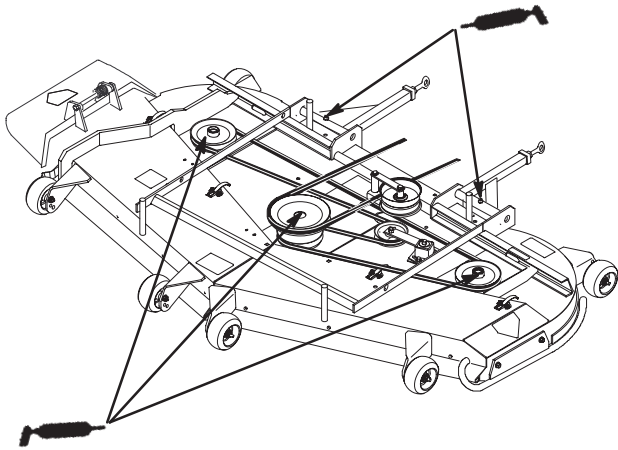

Figure 33
2. Grease the fittings on the three spindle bearings until grease comes out lower seals (Fig. 33).
3. Grease the fittings on the push arms (Fig. 33).